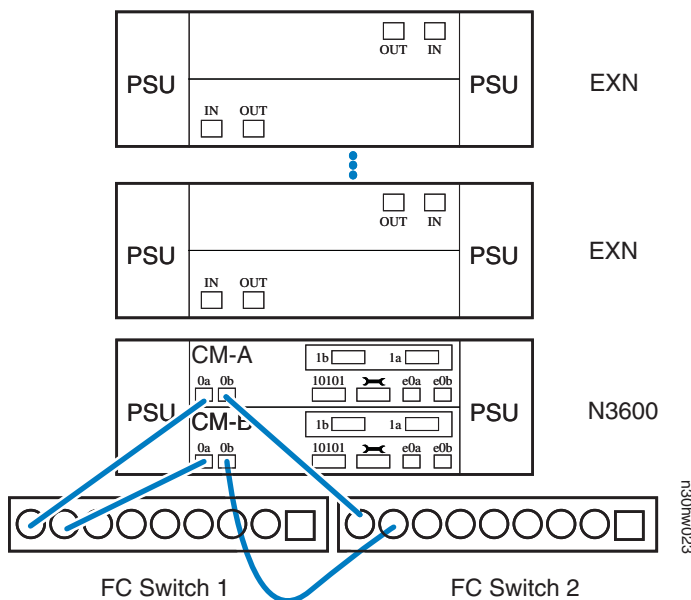

Figure 5. Cabling the N3600 to Fibre Channel switches
1. As shown in Figure 5, cable onboard Fibre Channel ports 0a of both the top and bottom controller modules (CM-A and CM-B) to two ports on one Fibre Channel switch.
2. As shown in Figure 5, cable onboard Fibre Channel ports 0b of both the top and bottom controller modules (CM-A and CM-B) to two ports on a second Fibre Channel switch.